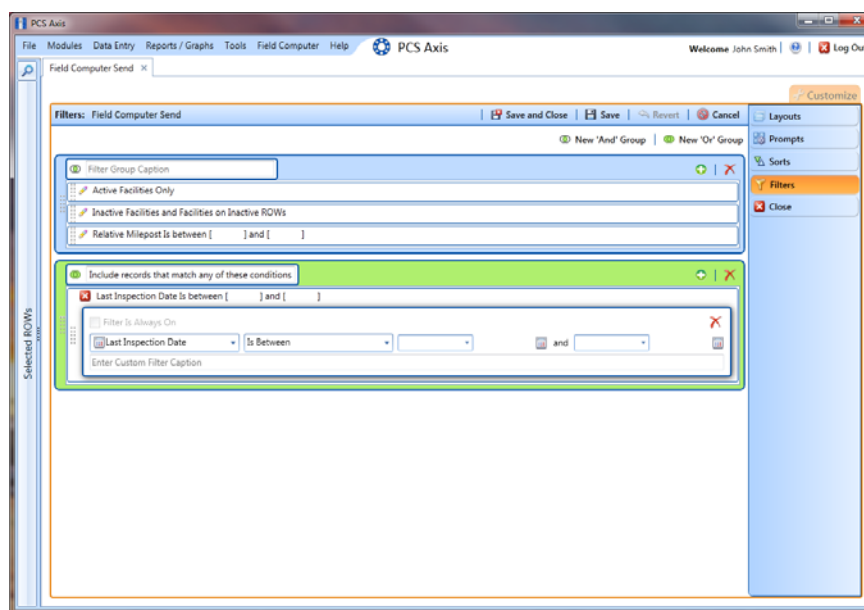

Figure 12-36. New 'Or' Filter Group
- 4 Click the **Customize** tab , then the **Filters** button  to open the *Filters* page (Figure 12-36, page 512).
- 5 Click  **New 'Or' Group** to open a filter properties group box (Figure 12-36).
- 8 If the OR filter group includes a date filter, such as *Facility Delinquent Date Is Between* shown in Figure 12-36, page 512, set a date range using a calendar or dynamic dates in the following manner: